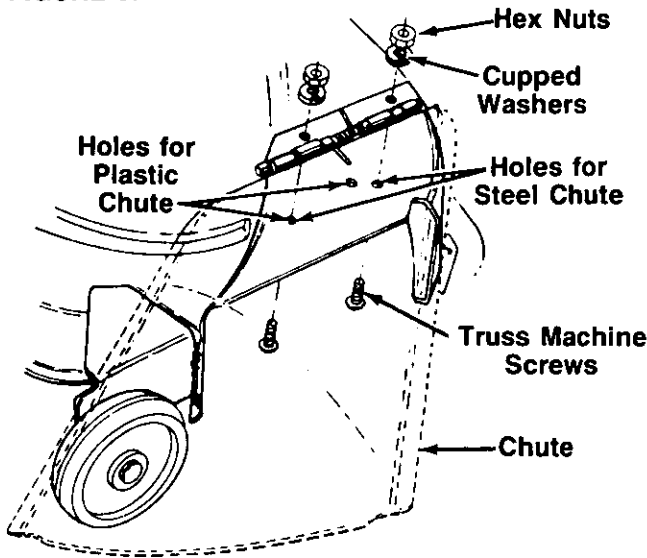

FIGURE 10.
The chute deflector on your unit may be either plastic or steel. Assemble the chute, using the holes shown ← in figure 10.
2. Place the chute deflector in position as shown in figure 10. Secure with hardware just removed.